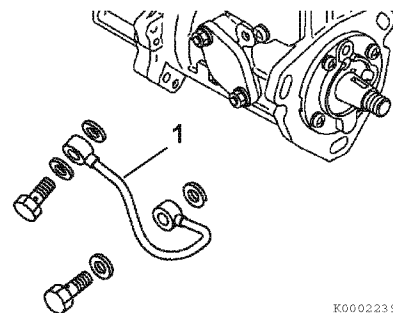

Figure 7-14
12. Remove the lube oil line (Figure 7-14, (1)) from the fuel injection pump and cylinder block.